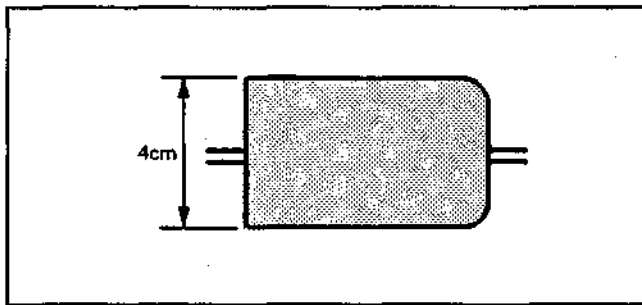

Fig. 4-15
9) Turn No. 6 guide clockwise and make the RF output waveform entrance portion 4cm. (Fig. 4-15)